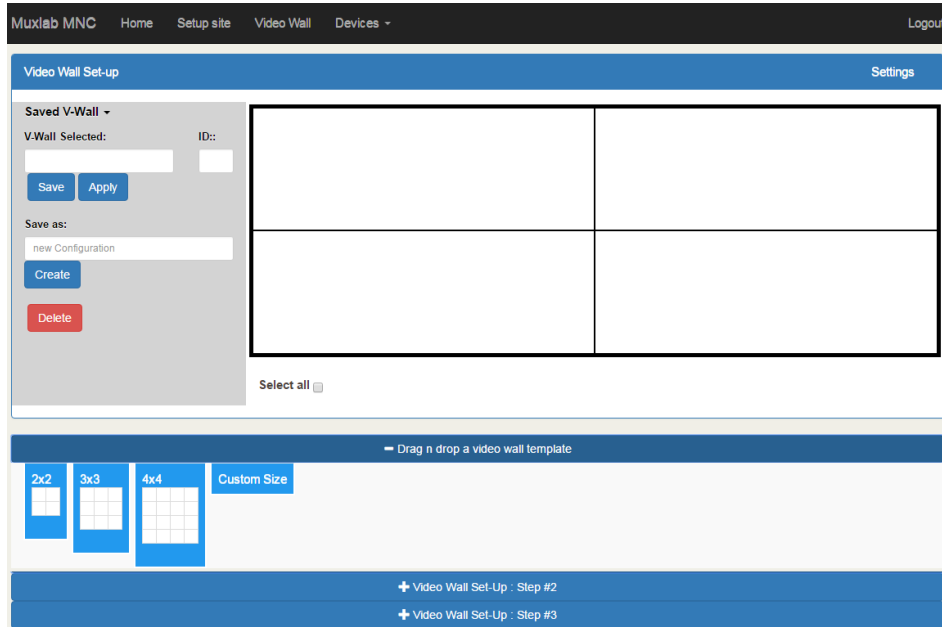

Figure 256: Video Wall Tab – Newly Created 2x2 Video Wall
- c. Once created, the display pane shows an empty (unpopulated) video wall consisting of 4 monitors (Figure 256).